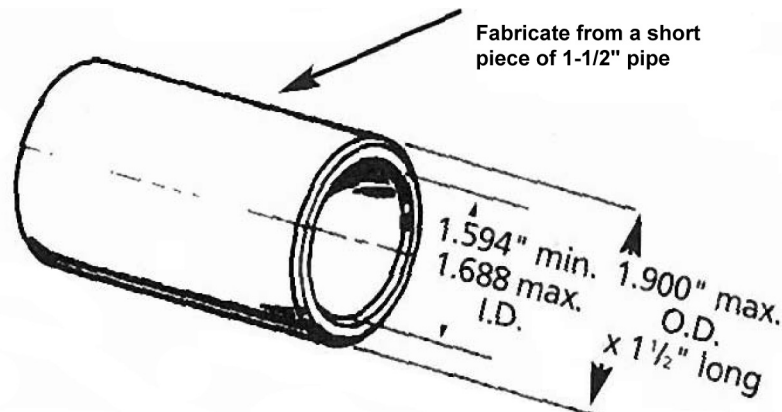
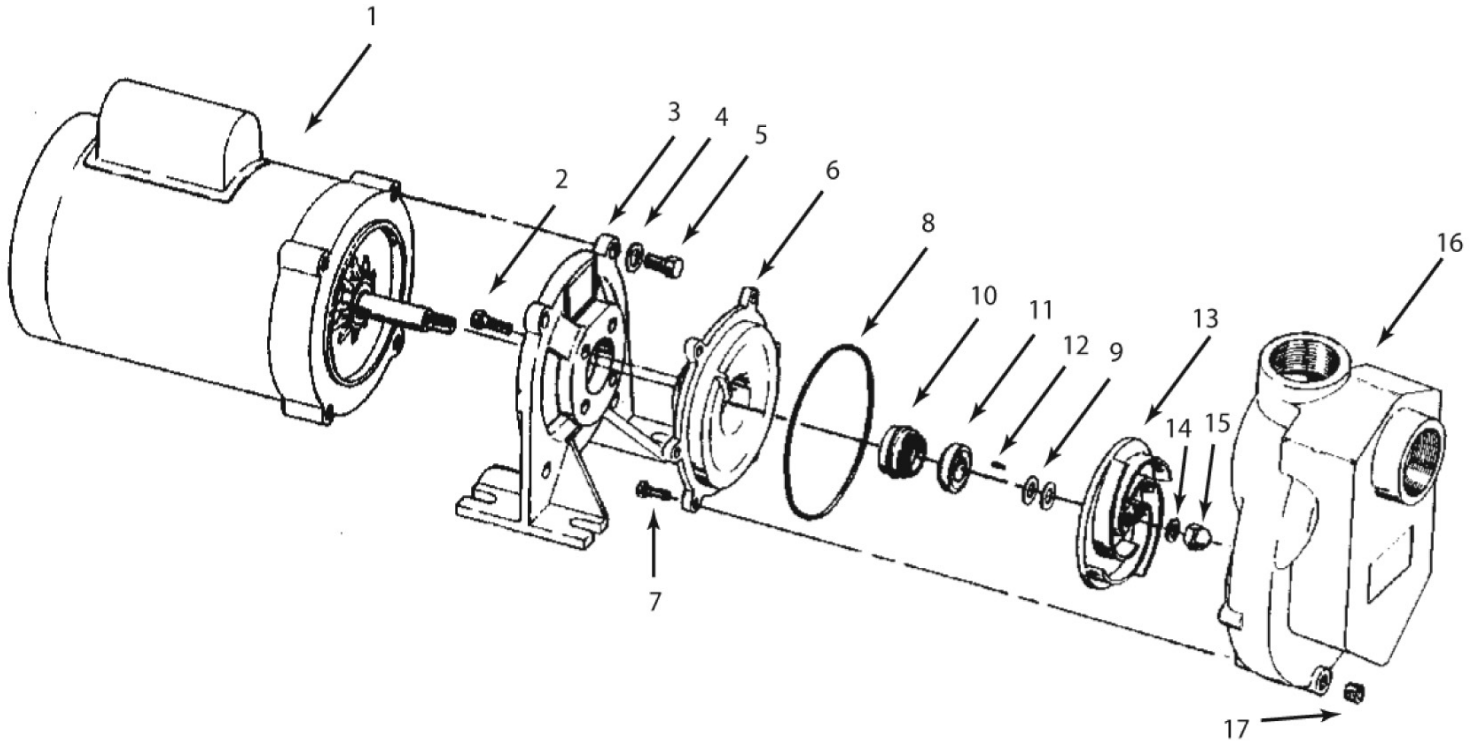

Figure 2 - Seal Installation Tool
Figure 3 - Repair Parts Illustrations
8. Apply a light coat of sealing compound to new seal head (See Figure 2) and press it into casing cover recess using proper size tube or installation tool (see Figure 3). DO NOT press on carbon face or top of metal cup of the seal head. Install using flange only.